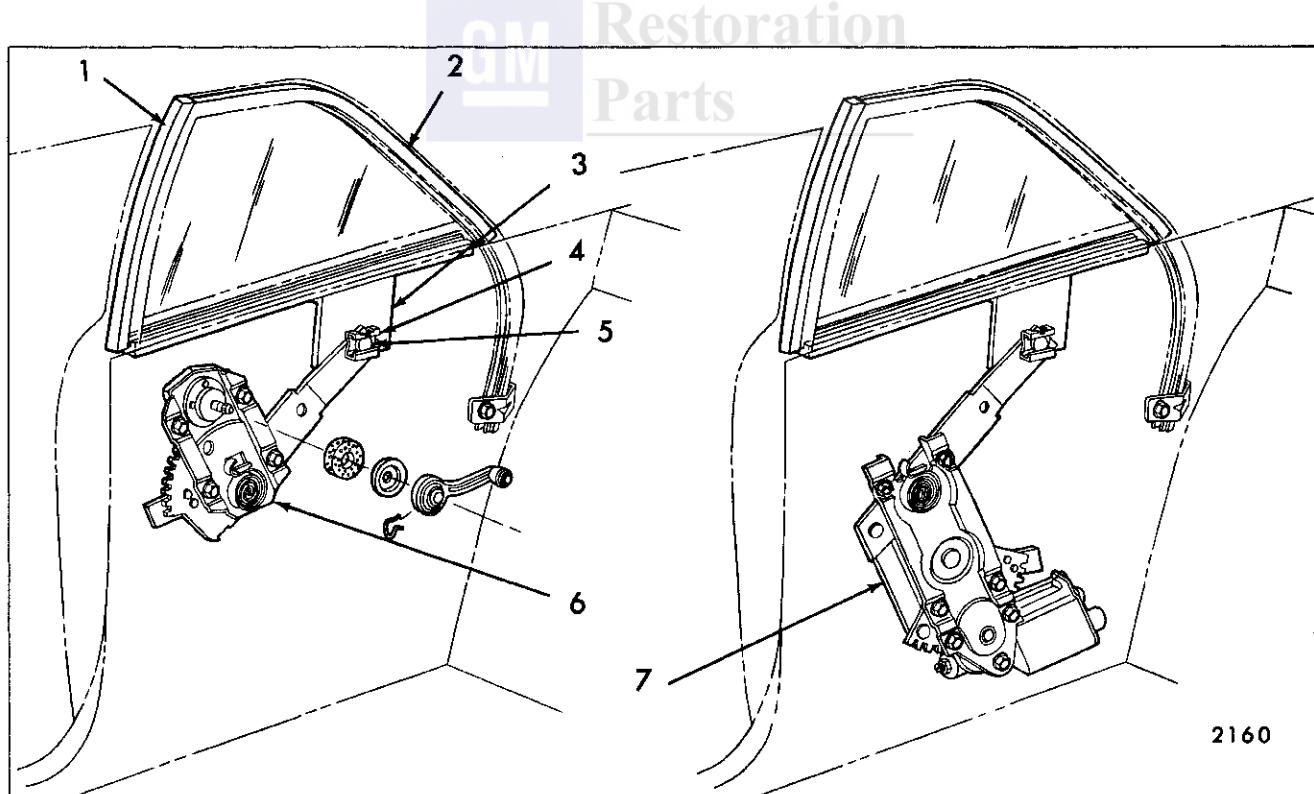
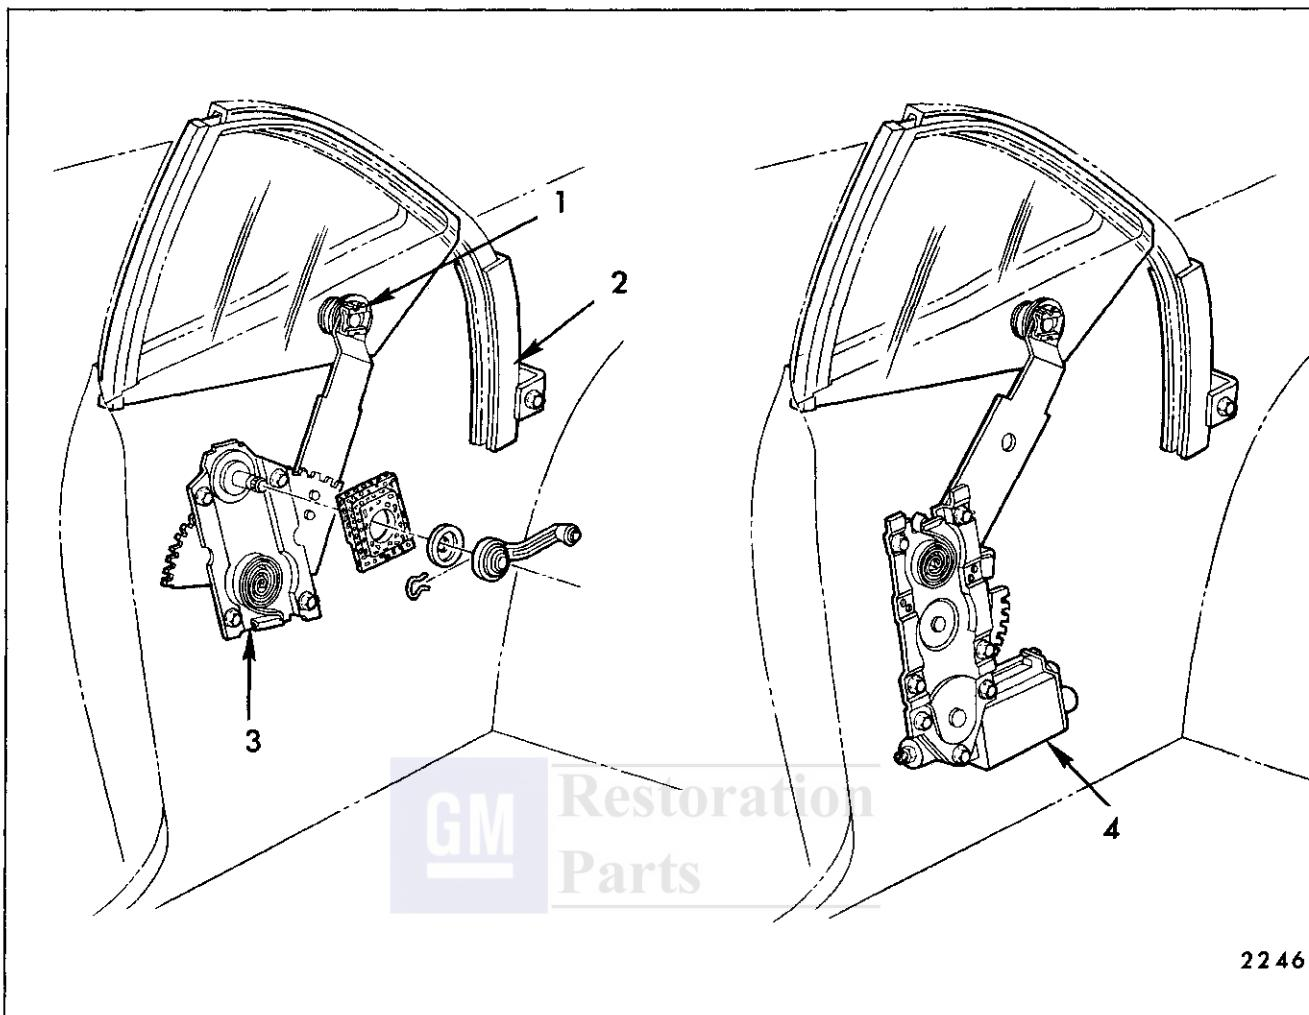
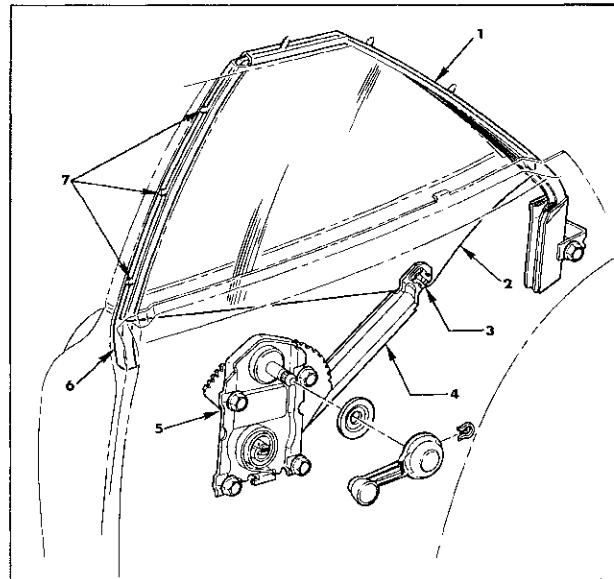

Fig. 7-5—Rear Quarter Hardware - "B-11" Styles
Fig. 7-6—Rear Quarter Hardware - A - "27-77" Styles
Fig. 7-7—Rear Quarter Hardware "X-27" Styles
3. Support glass with one hand and disengage clip retainer which secures regulator lift arm to pivot pin on window sash channel on "B-11" Styles (Fig. 7-5) or at lower edge of glass on "A" (Fig. 7-6) and "X" (Fig. 7-7) Styles.
2. Remove screws along length of run channel securing channel to body (Figs. 7-7 and 7-8).